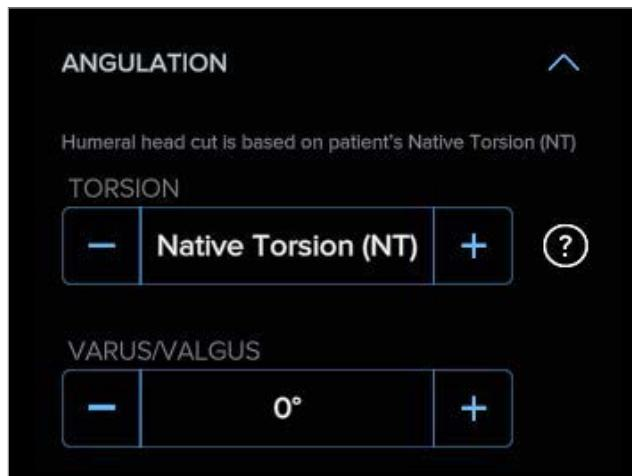

Figure 58. Angulation control
Angulation: Reverse (Figure 58)
- The ⓘ shown in Figure 58 displays the definition of torsion, which some literature uses interchangeably with version.